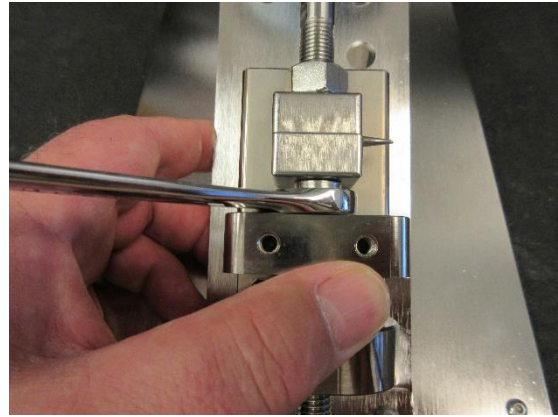

Figure 3.4.3
- Using a 9/16" open end wrench break the lower jaw nut loose while holding the thumb wheel, keeping the threaded rod from rotating. **Figure 3.4.3**